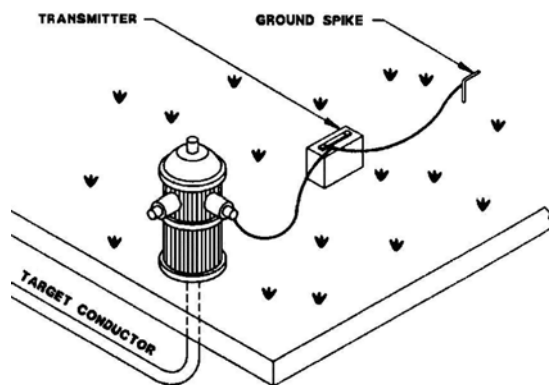

Figure 4-1: Direct Connection
- 3 Move the Transmitter away from the conductor in a right angle direction as shown in Figure 4-1 on the next page.